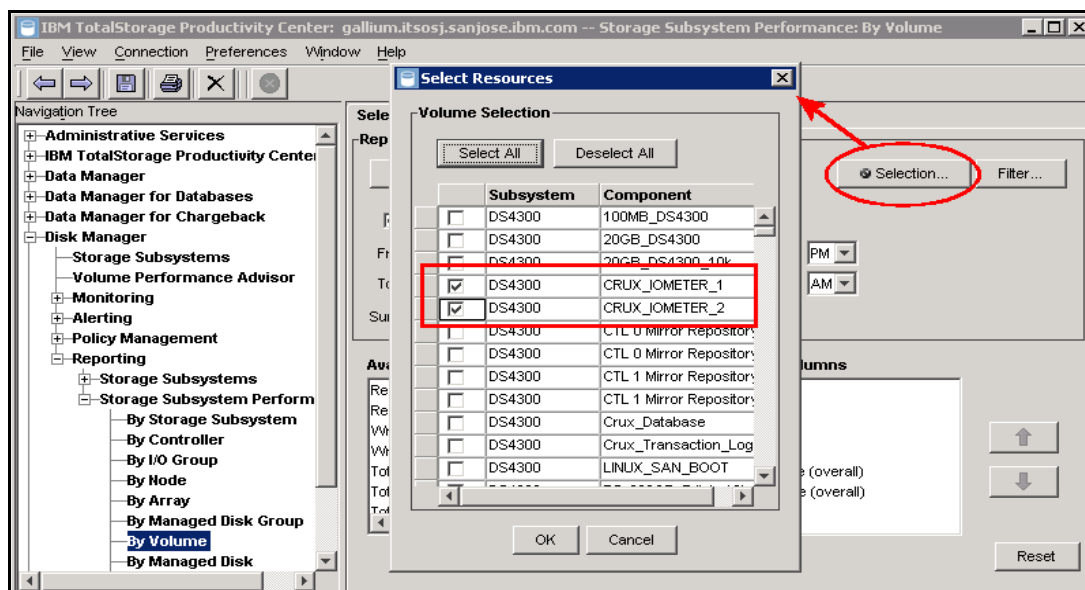

Figure 7-35 Select volumes from Volume Selection
- Next select the storage subsystem to report on. Click **Selection** to bring up the Select Resources window. In our example, we select two volumes from a DS4300 storage subsystem, as shown in Figure 7-35.